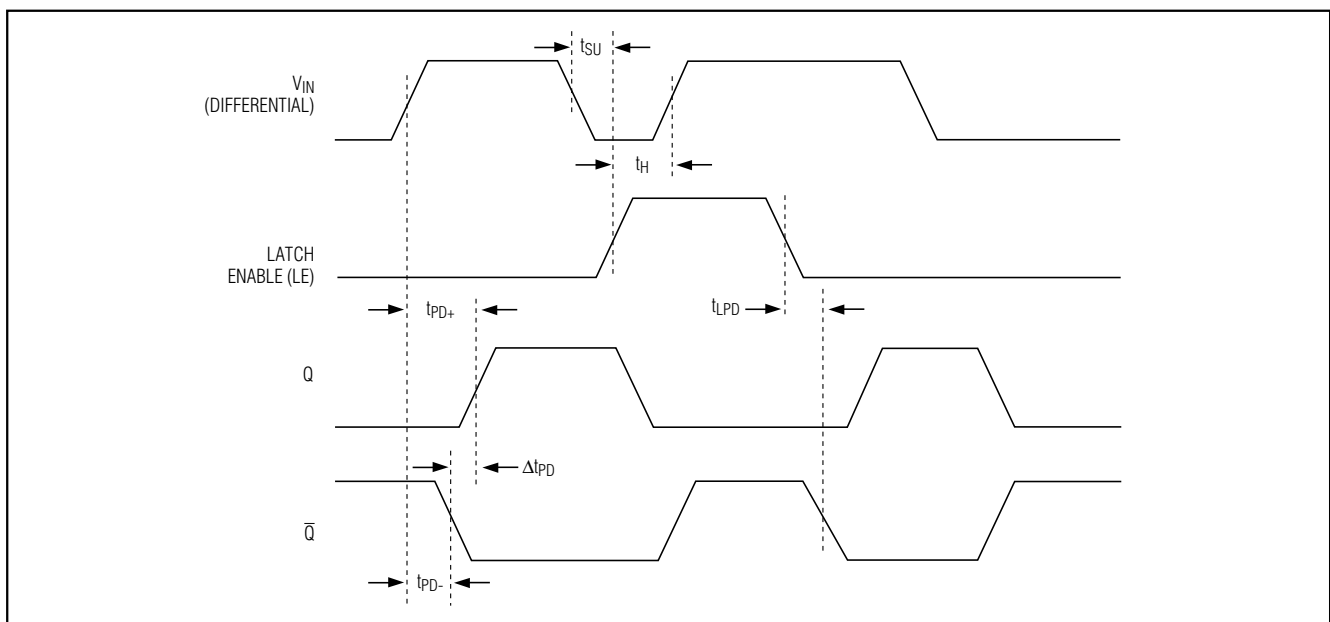

Figure 1. Timing Diagram
The MAX912/MAX913 provide a TTL-compatible latch function that holds the comparator output state (Figure 1). As long as Latch Enable (LE) is high or floating, the input signal has no effect on the output state. With LE low, the outputs are controlled by the input differential voltage and the latch is transparent.
The maximum clock and signal rate is 70MHz , based on the comparator's rise and fall time with a 5mV overdrive at $+25^\circ\text{C}$ (Figure 1). With a 20mV overdrive, the maximum propagation delay is 12ns and the clock signal rate is 85MHz .